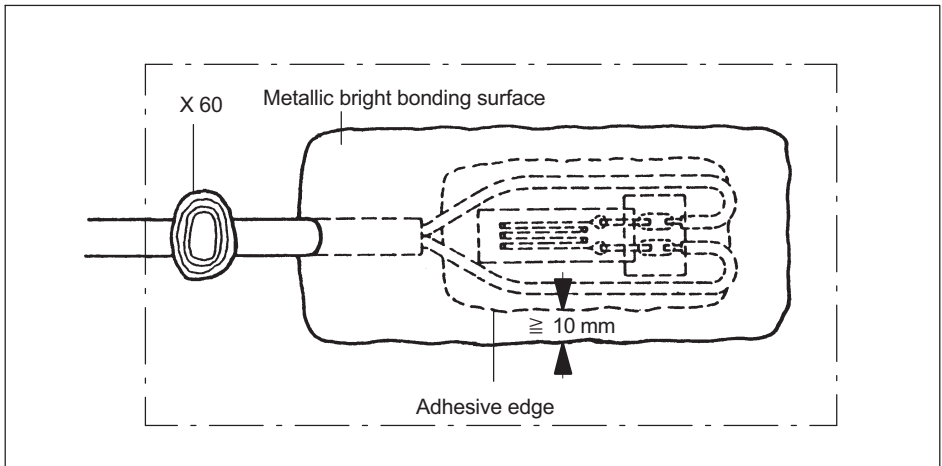

Fig. 4.1 SG measuring point covered with SG250
- ▶ The connection cable and the cable sheath in the area of the measuring point must also be degreased. Fluoropolymer connecting cables must be etched and degreased so that the covering compound bonds better. Prepare the cabling of the measuring point as shown in *Fig. 4.1 on Page 4*.